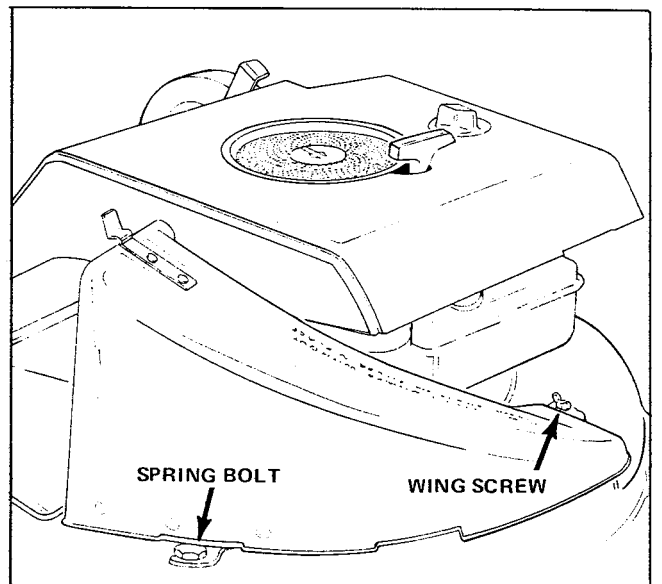

Figure 9. Attaching Grass Chute
5. Install the grass chute over the opening in the mower deck by sliding both slots under the spring bolts, and tightening the wing screw finger tight into the mower deck (see figure 9).